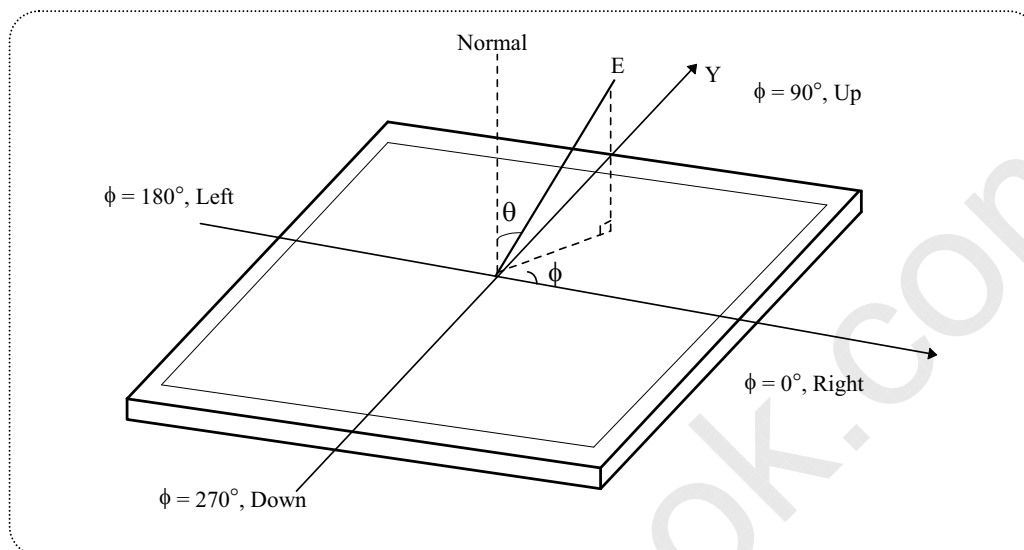

FIG.10 Viewing angle
5. Viewing angle is the angle at which the contrast ratio is greater than 10. The angles are determined for the horizontal or x axis and the vertical or y axis with respect to the z axis which is normal to the LCD surface. For more information see FIG.10 **(By PR880)**